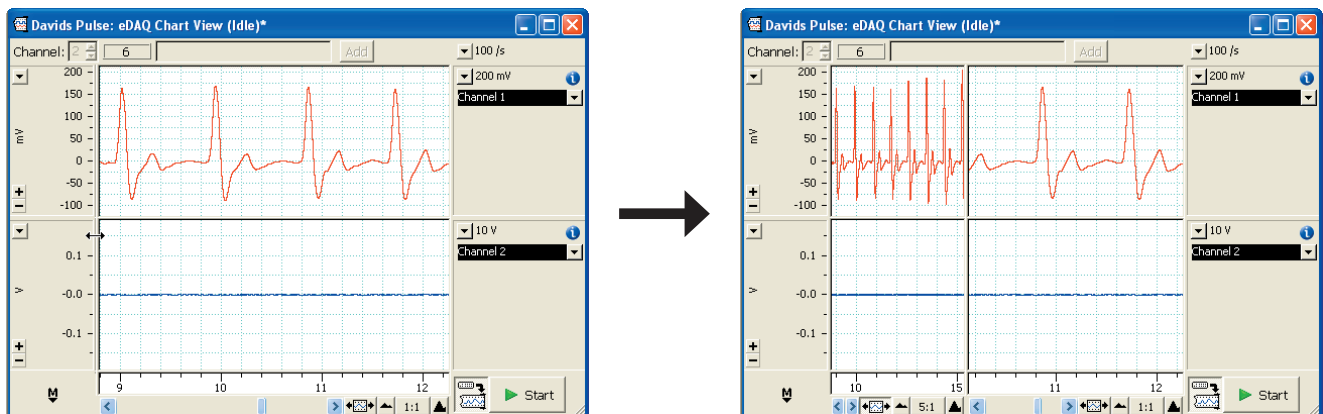

Figure 18. Splitting the data display area: drag the split bar to the desired position and release the mouse button.
1. Position the pointer anywhere along the length of the split bar, which is located on the left side of the display area (Figure 18). The pointer should change into the split pointer.